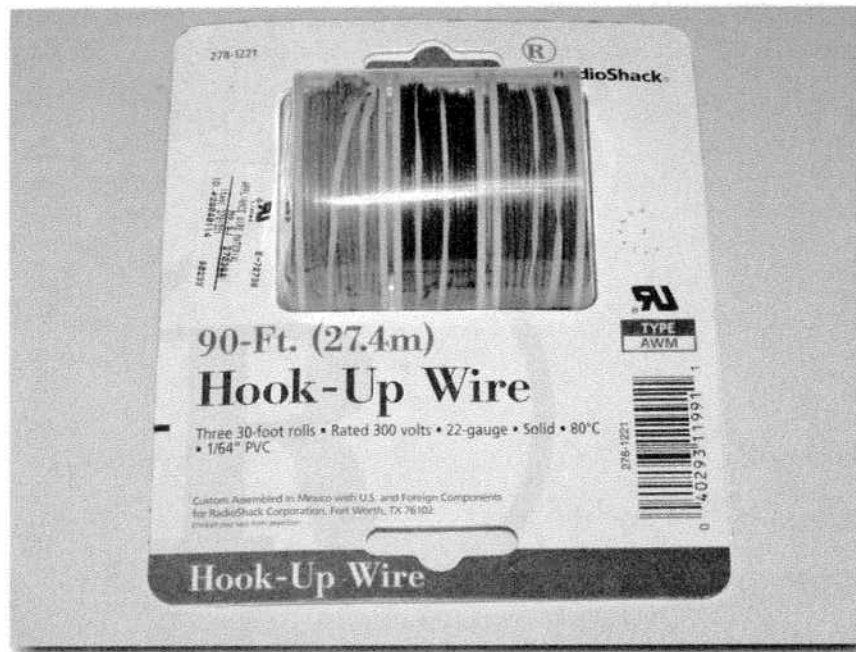

FIGURE 3-4: Hookup wire used for connection to the battery barrier terminal strip.
- **Twenty-Two (22) Gauge Wire, Stranded**—For connecting device on the inside of your vehicle (see Figure 3-4). If you're just running the battery terminal strip and not connecting any devices as part of this project, you can ignore this piece (about \$5.49 from Radio Shack).